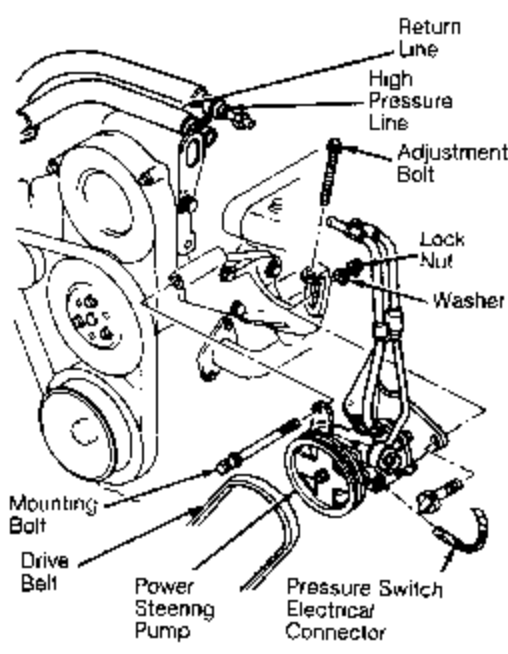
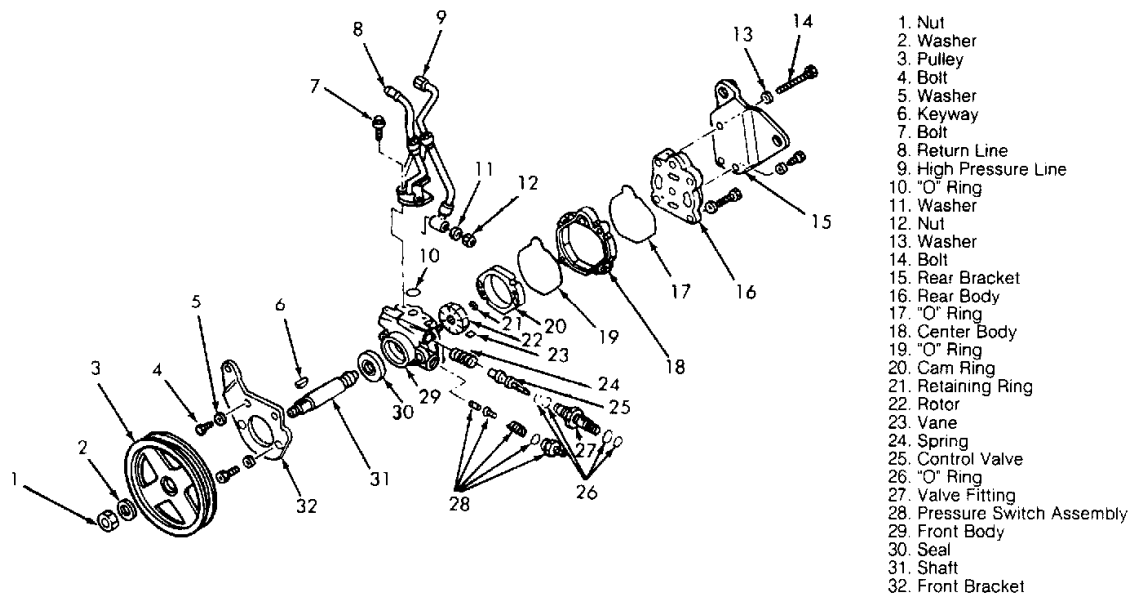

Fig. 7: Power Steering Pump Mounting & Pressure Hose (Festiva)
Fig. 8: Exploded View of Power Steering Pump (Festiva)
1. With pump removed from vehicle, secure pump in a soft-jawed vice. Remove nut and washer that secure high pressure line. Remove cap screw and support bracket. Remove high pressure line. Remove return line attaching bolts. See Fig. 7 and Fig. 8 .